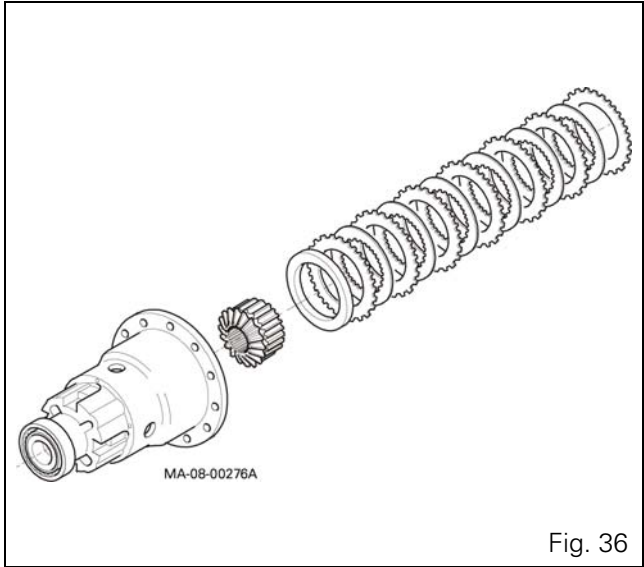

Fig. 36
41. Install all internal parts in the bearing: pinion gears, discs and disc heads, as shown in the figure (Fig. 36).